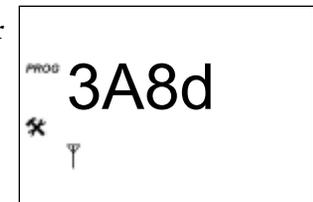

Fig. 36
- b. Press and hold ,  and  simultaneously for 5 seconds to enter INSTALLER PROGRAMMING MODE, **PROG** . Communication address is displayed – four digits of: **0123456789AbcdEF** (Fig. 36).